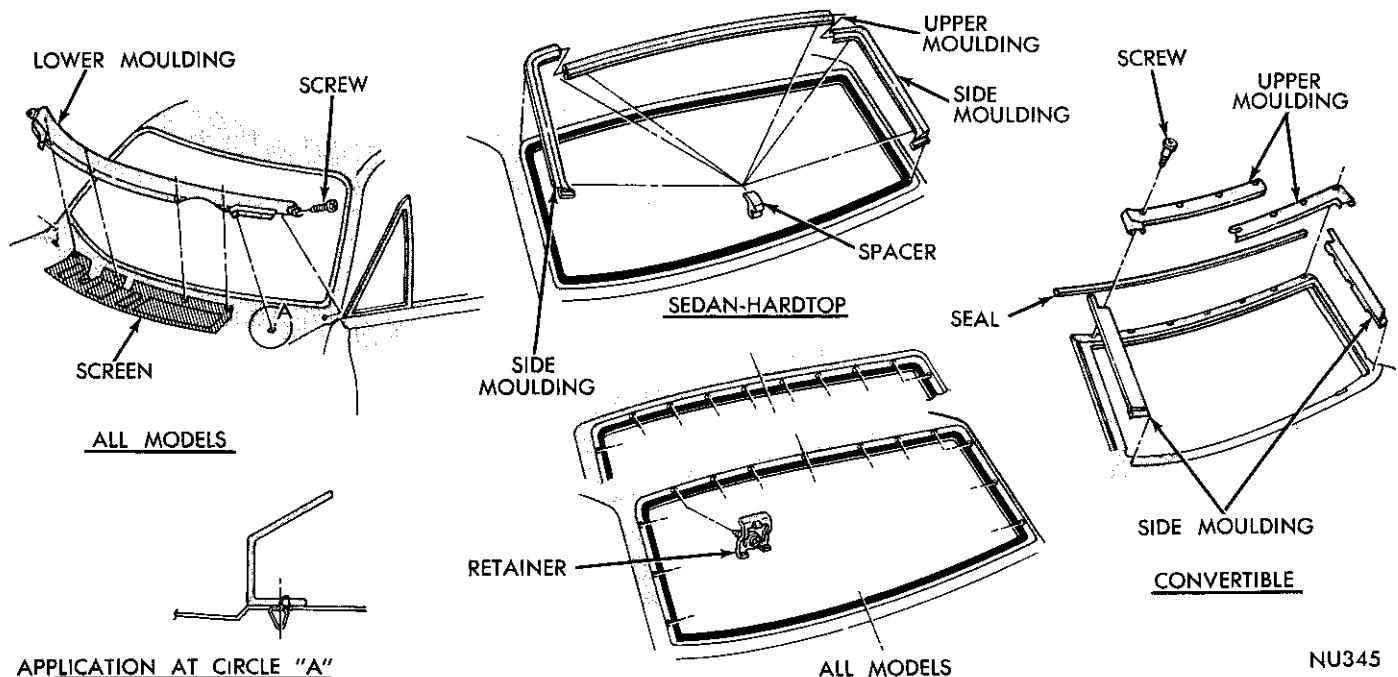
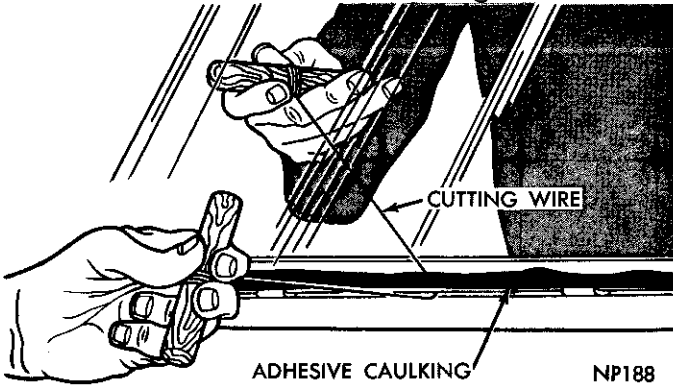

Fig. 1—Windshield Outer Mouldings (Chrysler)
Fig. 3—Cutting Adhesive Caulking
- (1) Place protective covering over the areas adjacent to the glass being replaced.
- (2) Remove window exterior mouldings (Figs. 1 or 2) and inner garnish mouldings using Tool C-4009.
- (3) Secure one end of a two foot length of tempered steel wire (.028 gauge max.) to a wooden handle.
- (4) Insert other end of wire through adhesive at lower corner of window and secure to another wooden handle.
- (5) With an assistant, carefully cut through adhesive material by pulling wire, in a sawing motion, up one side, across top, down opposite side and across bottom (Fig. 3).
(6) With an assistant, remove glass from opening and if original glass is to be reinstalled, place on a protected surface.
(7) All old adhesive should be removed from glass and opening reveal using a putty knife or razor blade. **DO NOT use an oil base solvent to remove adhesive.**
(8) Using steel wool, remove loose flakes of adhesive and old primer from reveal. Use light air pressure to clean reveal and surrounding areas.